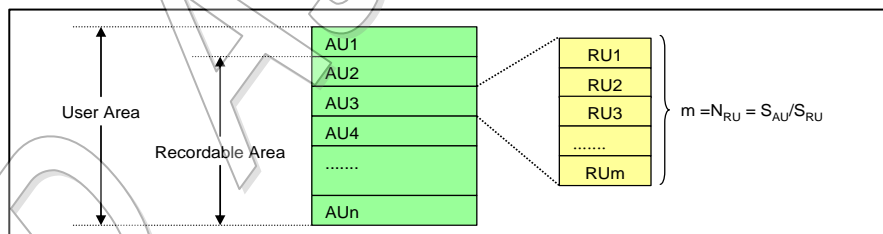

Figure 4-47 : Definition of Allocation Unit (AU)
4.13.1.1 Allocation Unit (AU)
The User Area is divided into units called "**Allocation Unit (AU)**" (Refer to Figure 4-47). AU is physical boundary in User Area of a card and is not defined by the file system boundary. Each card has its own fixed **AU Size (S_{AU})** and the maximum AU Size is defined depending on the card's capacity. The host should manage data areas with the unit of AU. If the first AUs in the card contain file system information then they should not be used for real time recording. An AV application should start recording from the first complete AU, to which only user data can be recorded. Note that this specification does not apply to the Protected Area.
4.13.1.2 Recording Unit (RU)
Each AU is divided into units called "**Recording Unit (RU)**" (Refer to Figure 4-47). The unit of **RU Size (S_{RU})** is 16KByte. The RU Size is a multiple of 16KByte and shall not span across an AU boundary. Larger RU size may improve performance. The condition and requirement of the minimum RU Size is defined by Section 4.13.1.8.1. **The number of RUs in an AU (N_{RU})** is calculated from S_{AU}/S_{RU} .